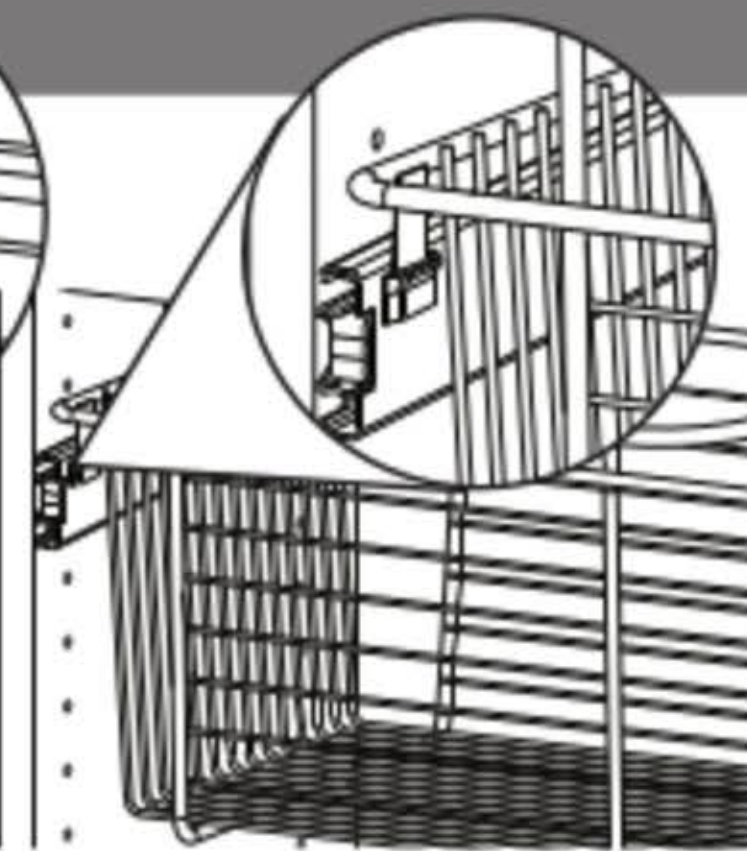

FIGURE 3
5. Lower the basket down so that the tabs on the basket are inserted into the slots on the slides. (Fig. 3)